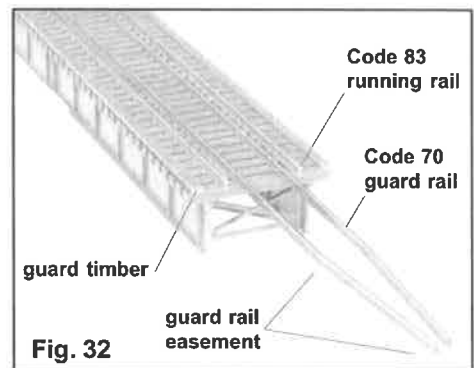

Fig. 32
39. Cement the guard timbers to the top of the ties. Position the guard timbers, with the bolt head detail up, two scale inches (.023") in from the tie ends. See fig. 32. For curved bridges trim the guard timbers as needed and install them at an angle to follow the curvature.
40. Cement the guard rails to the Bridge Flex-Trak. On prototype bridges the guard rails were usually made of lighter rail than the running rails. Extend the guard rails 20 to 40 scale feet (2" to 5") off the ends of the bridge, onto the regular track. Using CA or Pliobond, cement the guard rails between the rows of guard rail spikes molded on the Bridge Flex-Trak. Form the easement at the guard rail ends by curving the last 1" to 2" of the guard rails in toward the track center until the rail ends almost touch. See fig. 32.